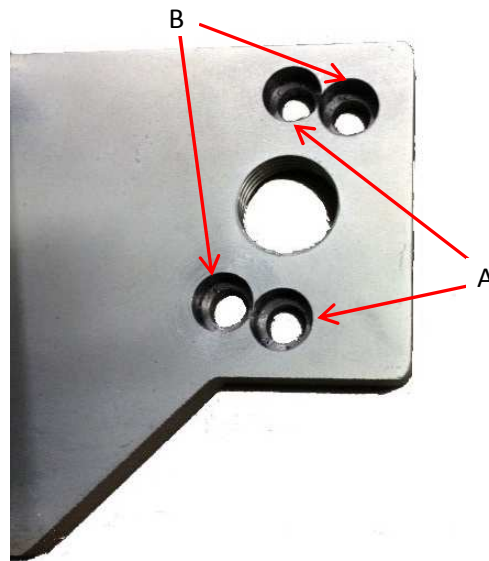

Figure 9: Possible Mounting Options
8. Attach the bracket assembly to the fuel oil controller using the two 5/16"-18 socket head cap screws with lockwashers through two of the four remaining holes in the bottom of the bracket. There are two possible ways to perform this mounting (see Figure 9).